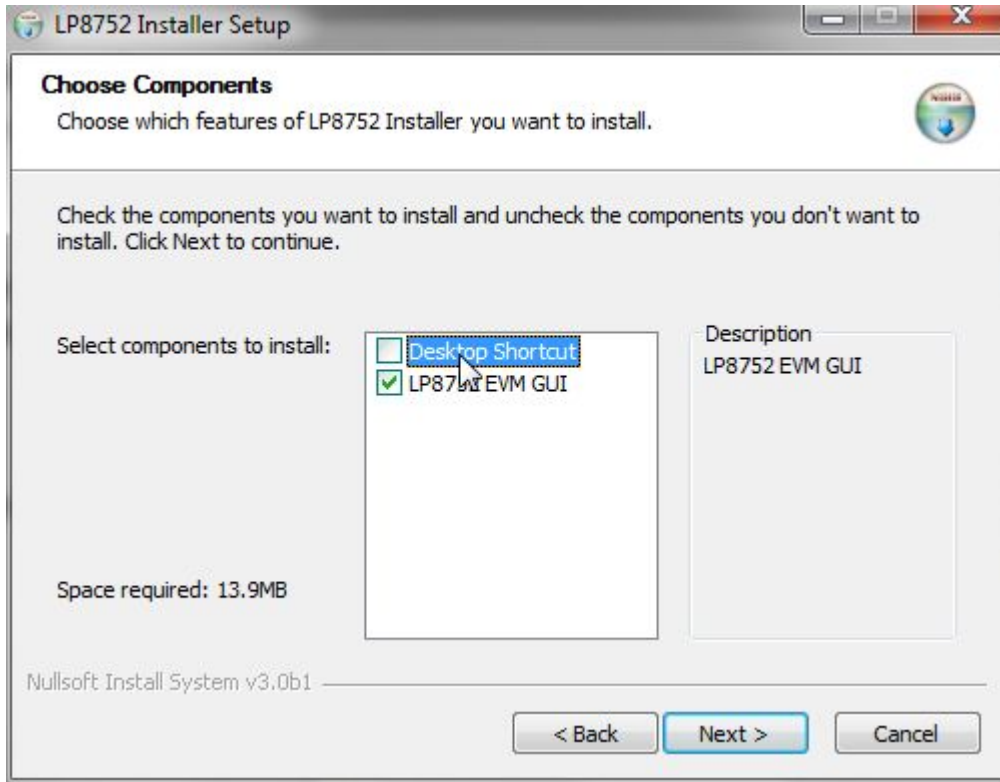

Figure 3. Features of LP8752 Installation
3. Installer prompts to choose which features of LP8752 Installer you want to install (see Figure 3).